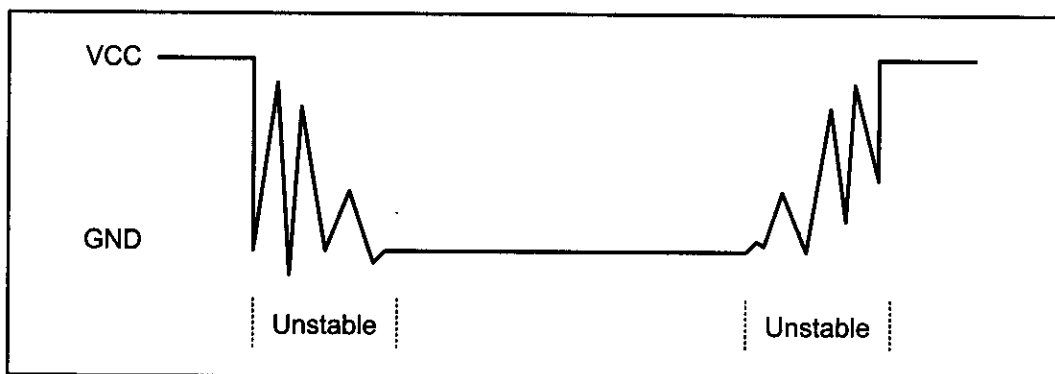

Figure 12-9. Keyboard Debounce
2. To see if any key is pressed, the columns are scanned over and over in an infinite loop until one of them has a 0 on it. Remember that the output latches connected to rows still have their initial zeros (provided in stage 1), making them grounded. After the key press detection, the microcontroller waits 20 ms for the bounce and then scans the columns again. This serves two functions: (a) it ensures that the first key press detection was not an erroneous one due to a spike noise, and (b) the 20-ms delay prevents the same key press from being interpreted as a multiple key press. Look at Figure 12-9. If after the 20-ms delay the key is still pressed, it goes to the next stage to detect which row it belongs to; otherwise, it goes back into the loop to detect a real key press.